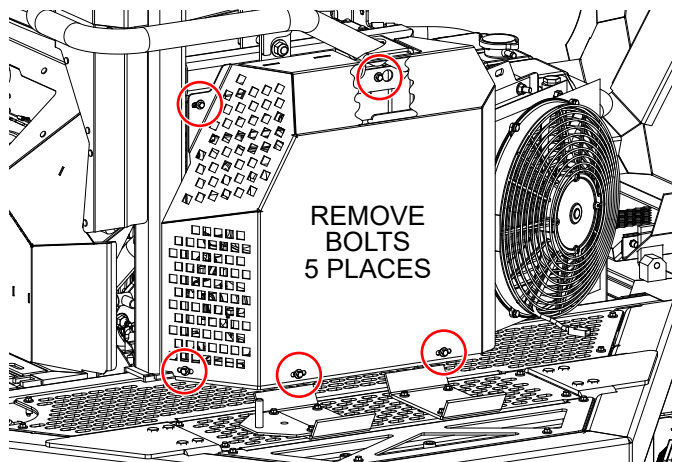

Figure 26. Hydraulic Oil Reservoir Cover Removal
6. If the hydraulic oil level is low, the hydraulic oil reservoir cover will need to be removed in order to access the hydraulic oil fill cap. Remove the five bolts securing the cover to the frame (Figure 26). Set the cover and bolts aside.